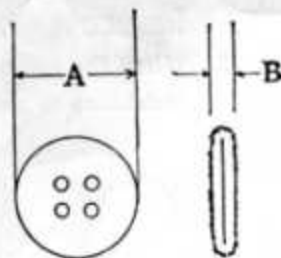

Fig. 30
To obtain the length of the cutting space, the opening through which the button passes is measured by adding the width (A) and thickness (B) of the button. Fig. 30